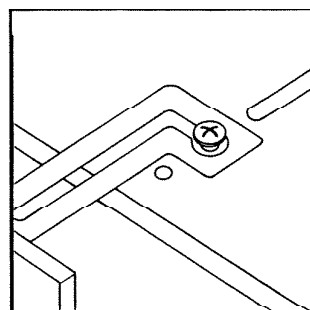

FIGURE 15
3. Attach master panel to rough-in frame by placing keyhole slots in both mounting hinges over screw heads in rough-in frame. See Figure 15.